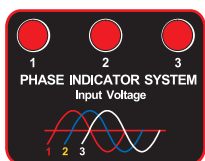

Figure 4.5.1
1. Toggle the circuit breaker on the back panel to "ON". Three red lights on the front panel should illuminate indicating 3-phase installation, 2 red lights for 1-phase installation (fig. 4.5.1).